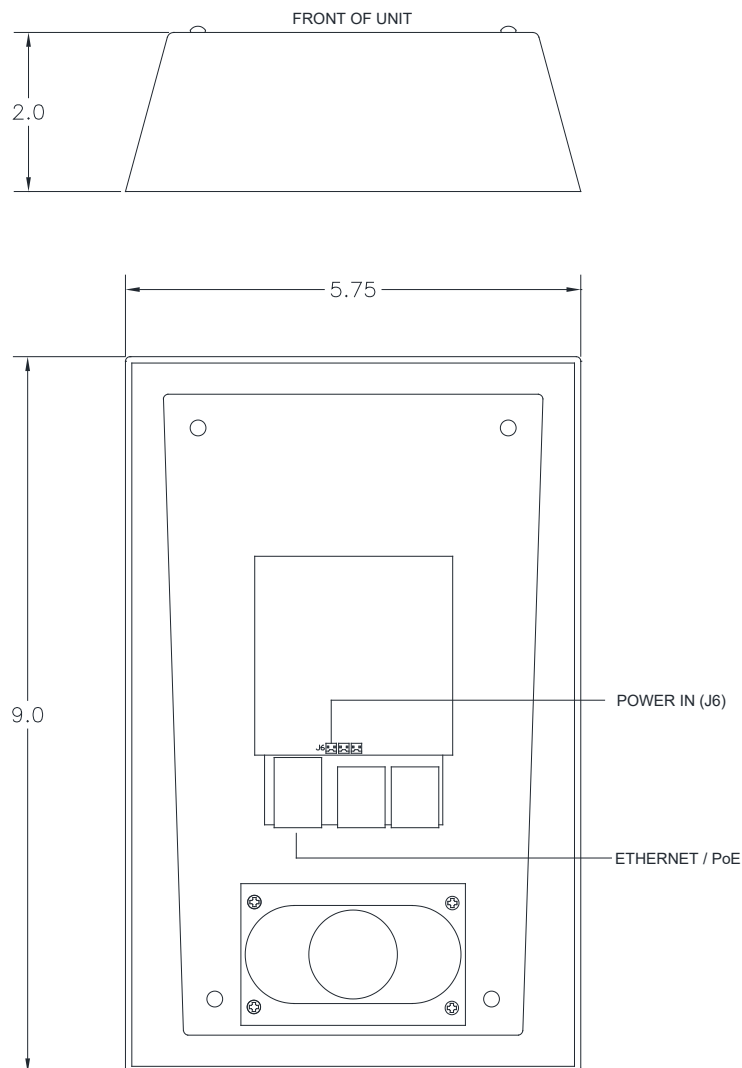

FIGURE 1. OVERALL DIMENSIONS & WIRING BL1000 BACK VIEW
Figure 1 depicts the outline of the BL1000 with overall dimensions and connection points.
2. Connect the power and communication cables according to Figure 1. An Ethernet extension cable is included with each unit and is plugged into the PoE Port. The extension cable can be moved to the Ethernet Port when required.